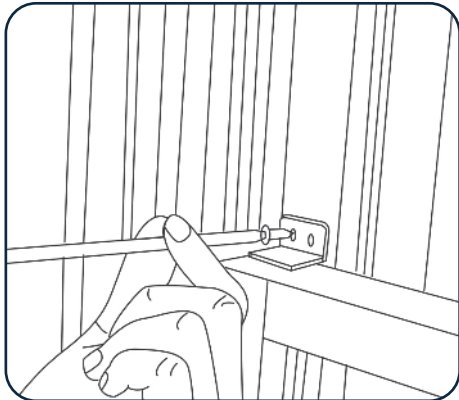

Fig.13
- To secure the lower sash into place, use the sash lock and 3/4" screws as shown below **(See Fig.13).**